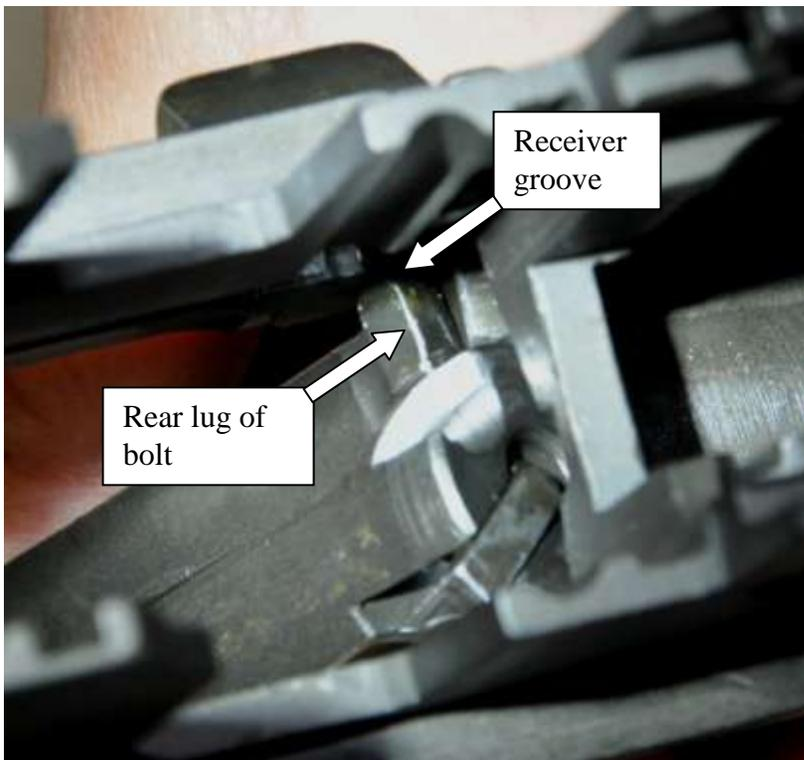
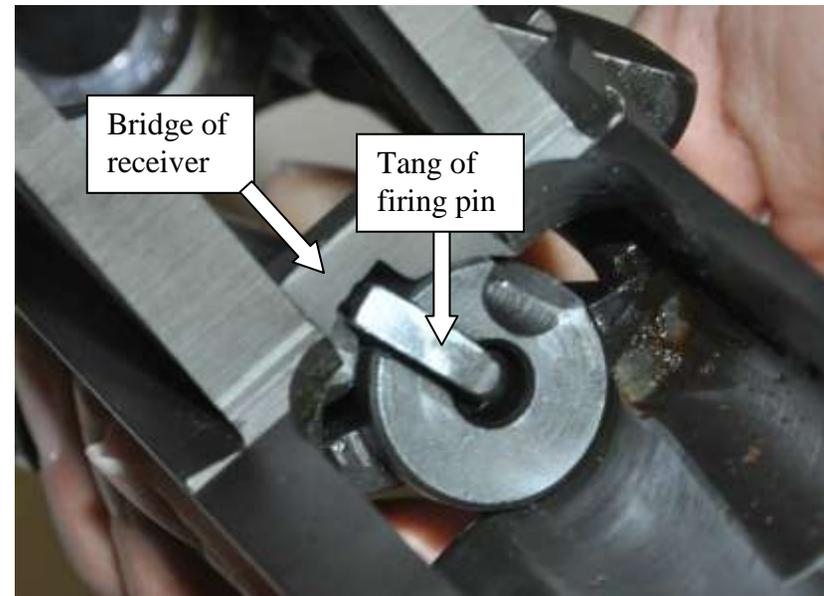

Figure 35 -Rear lug in groove on receiver
Figure 36 -Tang clearing notch in bridge of receiver
Note: Figures 35 and 36 show the rifle inverted. It is not necessary to invert the rifle but the figures are provided to aid in the bolt insertion.
- 3) To replace the bolt, hold the rifle upright and guide the rear lug of the bolt into its groove on the left side of the receiver (fig 35). Rotate so that the tang of the firing pin clears the notch in the bridge of the receiver (fig 36). Align the right locking lug on its bearing surface and slide the bolt to the rear.